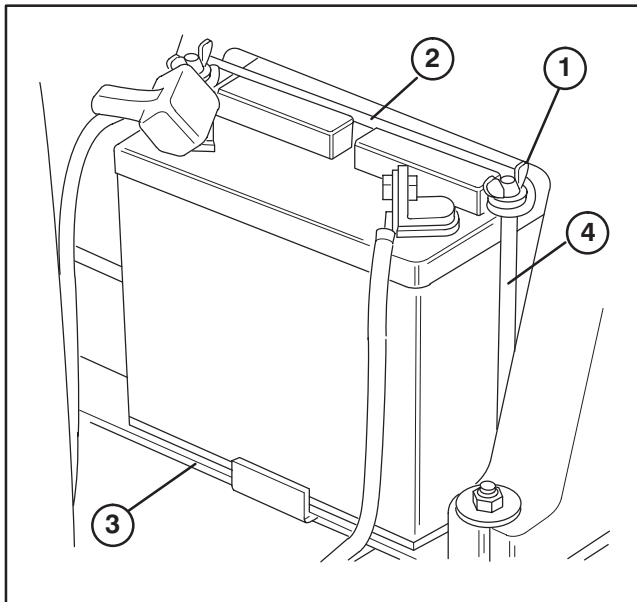

Figure 4
2. Remove wing nuts and washers securing battery clamp to battery bolts and remove battery from machine. Remove filler caps from battery and slowly fill each cell until electrolyte is just above the plates (Fig. 4).
6. Mount battery on battery pad with terminal posts toward rear of machine (Fig. 4).
7. Secure battery with to battery bolts with clamp, washers and wing nuts (Fig. 4).
8. Install the positive cable (rubber boot over end) to the positive (+) terminal and the negative cable (black) to the negative (−) terminal of the battery and secure with carriage bolts, lockwashers and nuts. Slide the rubber boot over the positive terminal to prevent possible short-out from occurring (Fig.4).